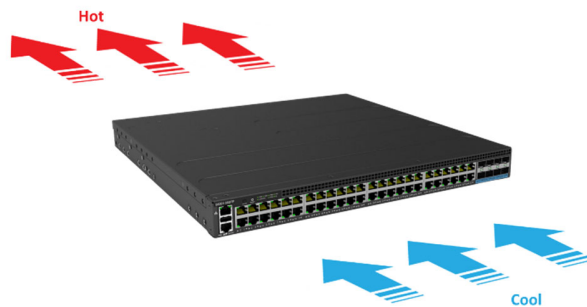

Figure 3.
- Cooling: The S6301-56STP supports front-to-back option (Figure 3.). Make sure the equipment on the same rack have the same airflow direction.